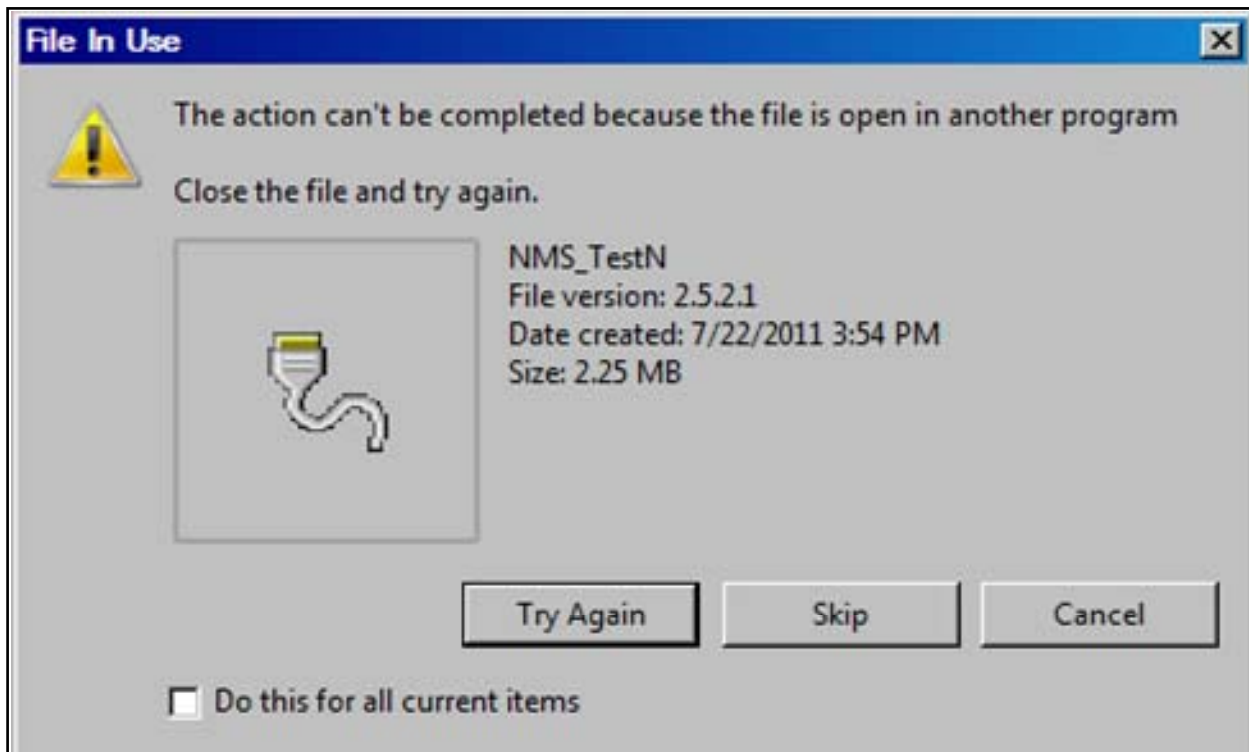

Figure 4-44. NMS Update Fail Error Box
5. An error dialog box will appear, **Figure 4-44**, if the older version of NMS is open and running.